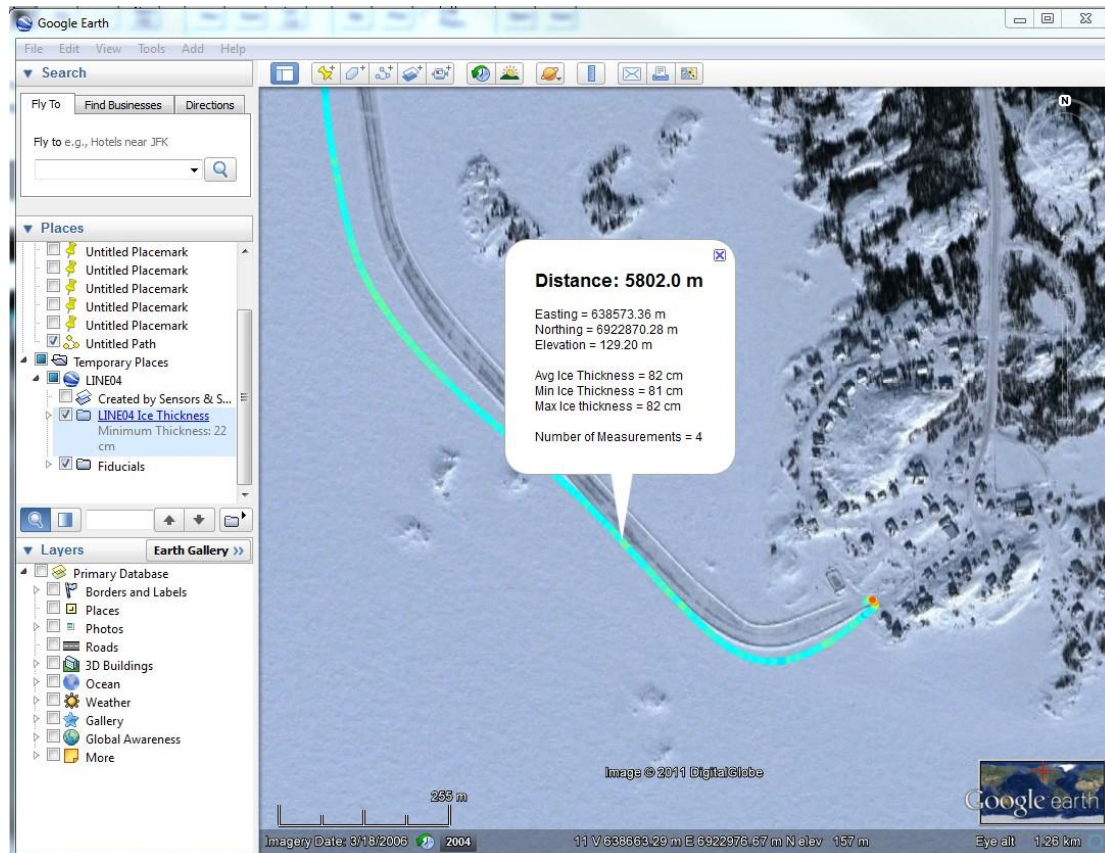

Figure 12-18: Clicking a point in Google Earth displays information about the point including GPS position and whether it has been averaged with other points.
- 2) Zoom in to locate and then click an individual point in the survey (Figure 12-18).